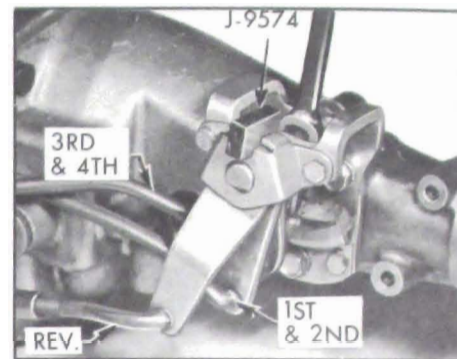

Figure 4-48—Checking Shift Linkage with J-9574
1. Remove three (3) screws retaining chrome ring to floor pan and remove.
2. Remove three (3) screws retaining boot and retainer to floor pan and slide boot up shift rod.
3. Place the transmission in neutral and install gauge block, J-9574 in position. See Figure 4-48.